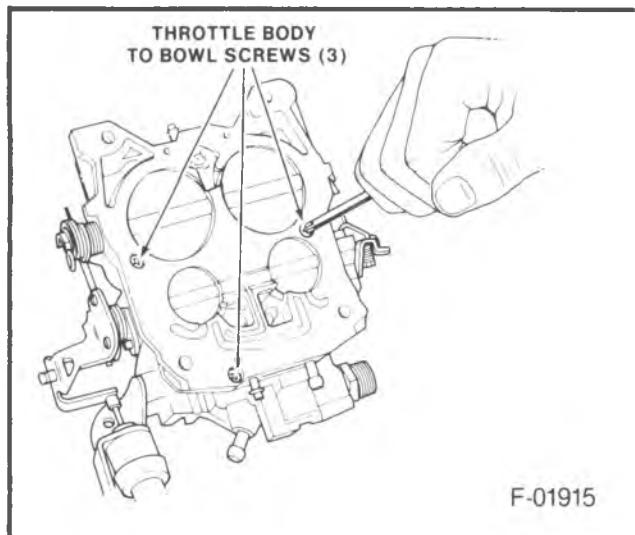

Figure 26 -- Throttle Body Screw Location
- ↔ Remove or Disconnect** (Figure 26)
1. Float bowl to throttle body screw assemblies (405).
2. Throttle body assembly (400), and float bowl to throttle body gasket (401).
Install or Connect (Figure 26)